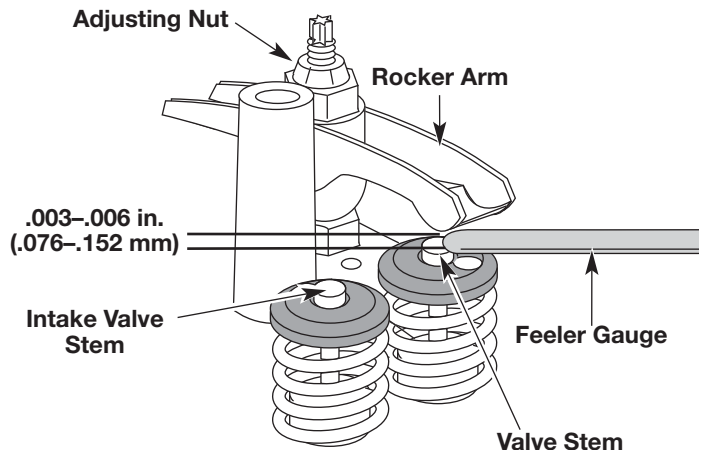

Fig. 30
- a. Turn the adjusting nut (Fig. 30) using a 5/16 inch (8 mm) wrench or nut driver.